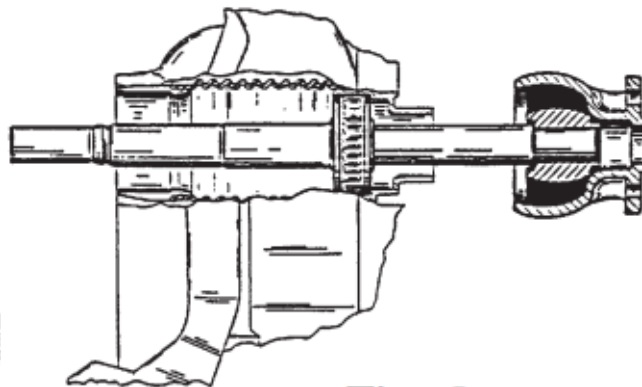

Fig. 2
5. Crank engine one revolution until "TDC" pointer mark and torsional damper mark are again in alignment. This is No. 6 firing position on V-8 and No. 4 firing position on V-6. With engine in this position, the following valves may be adjusted (See Figure 2).
Insert the tiered end into the gimbal bearing and move the tool to center with the engine coupler splines. If the tool enters the coupler freely and is fully seated in the coupler without any pressure (fig 2.), the engine is properly aligned.
3. Check that coupling centerlines align by butting propeller shaft coupling against transmission coupling. (Figure 2) Shoulder on propeller shaft coupling face should engage recess on transmission coupling face with no resistance.